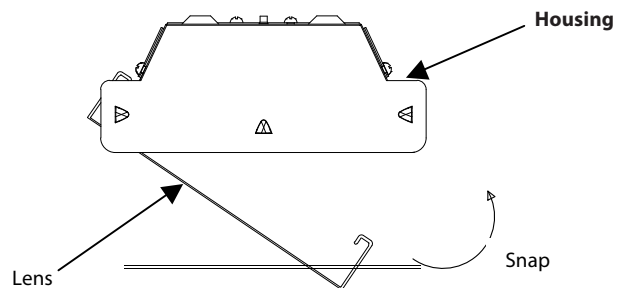

Fig.2
6. Replace **Lens**. Hook **Lens** to one side of **Housing** and Snap **Lens** into place as shown in **Fig. 2**.